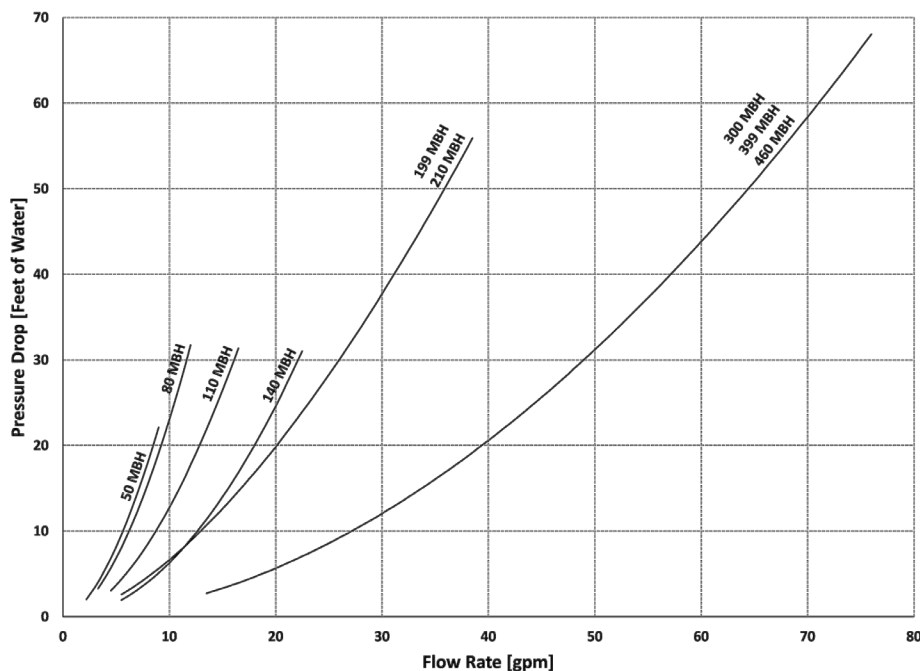

Figure 4.4: PUREFIRE® Circulator Sizing Graph (General Pump – Primary/Secondary)
d. The boiler pressure drop for various flow rates can be determined using Figure 4.4, the *PUREFIRE*® Boiler Circulator Sizing Graph.
e. Table 4.5 provides the flow rate and pressure drop information that corresponds to various system temperature rise values (DT). The pressure drop shown is for the boiler only. If there is significant pressure drop in the system, this should be included when specifying circulators.